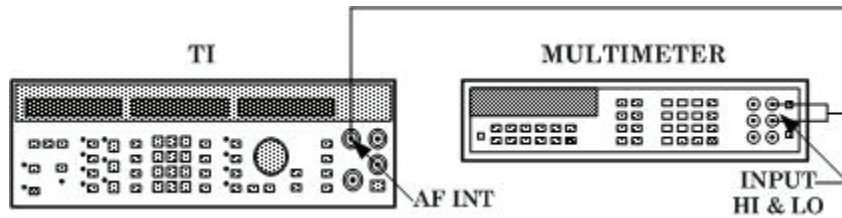

Figure 6. Modulation generator accuracy.
(1) Connect equipment as shown in figure 6.